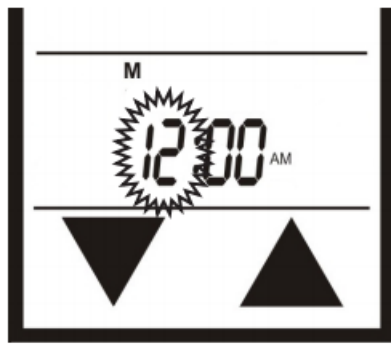

Fig. 5 Hours.
- Press and hold the **SET** button, or touch the **SET** (middle) section on the touch screen, for 5 seconds. The hour section should begin to flash. (Fig. 5)